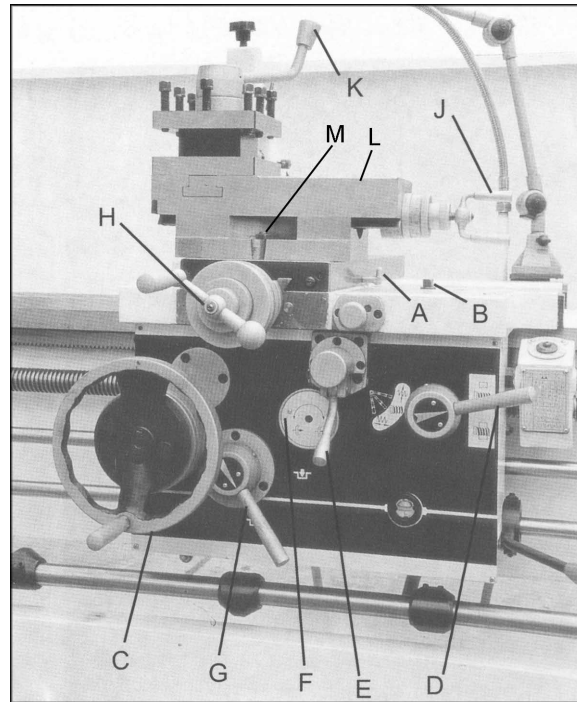

Figure 13
13. **Adjustable Feed Clutch** (F, Figure 13): When the machine is overloaded, it can slip. Then cutting rate must be reduced. **Note:** This setting has been calibrated at the factory and should not need adjustment. If adjustment ever becomes necessary, follow the diagram on the front of the apron.
14. **Cross Traverse Handwheel** (H, Figure 13): Located above the apron assembly. Clockwise rotation moves the cross slide toward the rear of machine.
15. **Compound Rest Traverse Handle (J, Figure 13):** Located on the end of the compound slide. Rotate clockwise or counterclockwise to position.